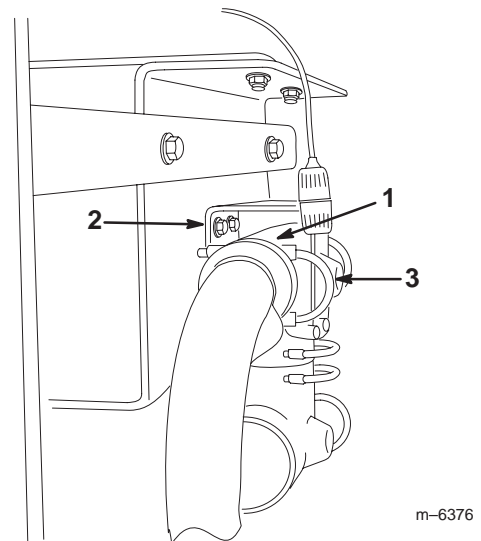

Figure 11
6. Remove the fasteners securing the tee behind the boom supply valve so that the tee will drop down, hanging on the hoses (Fig. 11).
7. Carefully drill a hole (1/4 inch dia) in the face of the port on the back of the tee (Fig. 11).
4. Wrap Teflon tape counterclockwise around the threads of the small silver fitting that is packaged with the red tubing and install it into the port you drilled out on the tee in front of the boom valves (Fig. 11).